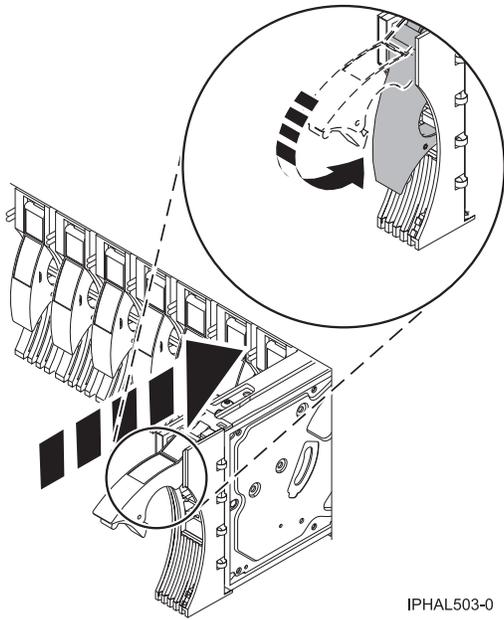

Figure 21. Installing a disk drive
8. Push the disk drive handle in until it locks, as shown in Figure 21 on page 36.